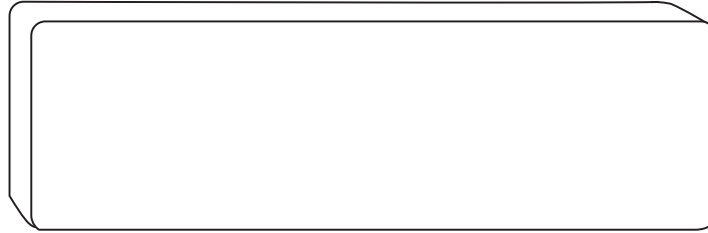

Figure 3 Correct Tag Orientation
2. Hold the tag so that the printed text or image is right side up and facing toward you (Figure 3). Press the tag against the windshield and hold for 10 seconds.